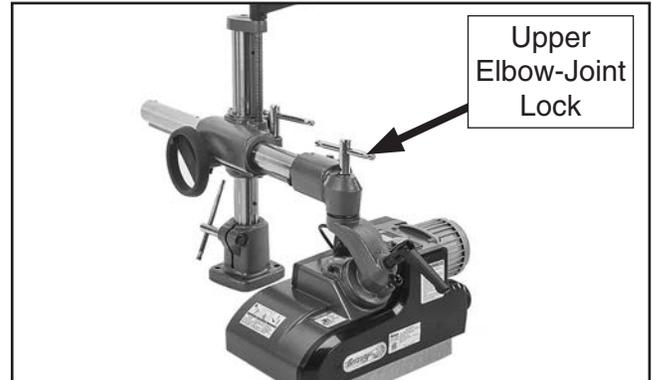

Figure 14. Upper elbow-joint lock fully tightened.
- Position upper elbow-joint so internal threads contact those inside lower elbow-joint, then fully tighten upper elbow-joint lock (see **Figure 14**).